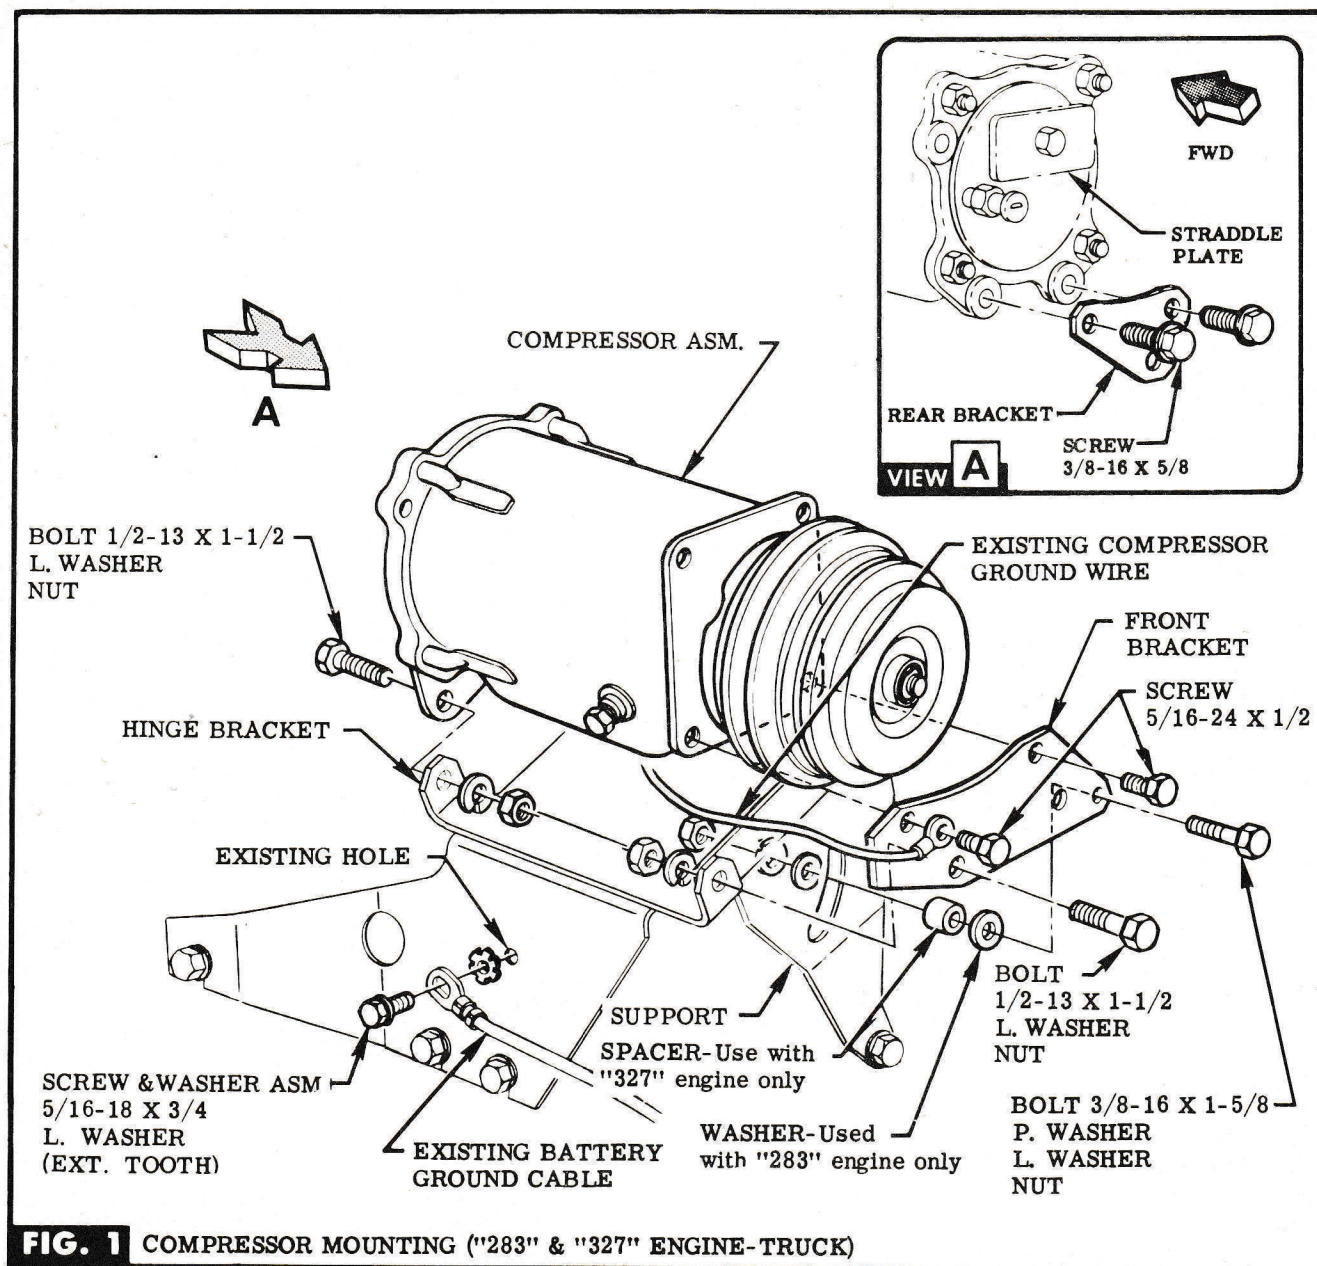

FIG. 1 COMPRESSOR MOUNTING ("283" & "327" ENGINE-TRUCK)
STEP 9 (L50 & C-L-M60) REINSTALL RETAINED OIL LEVEL TUBE & GAUGE WITH PROVIDED ATTACHING PARTS. SEE FIG. 1.